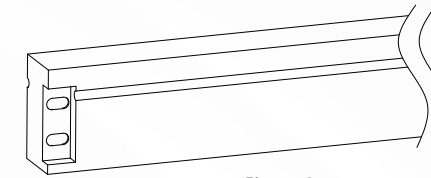

Figure 3
3. Cut off the adhesive on the back of the PCB to reveal the welding points, as shown in Figure 3.